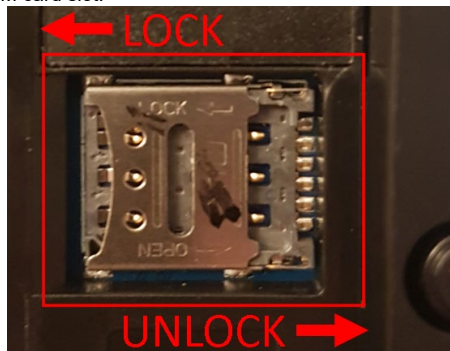

Figure 4
2. Slide the tray (Figure 4) to the right and lift it upward to access the SIM card slot.